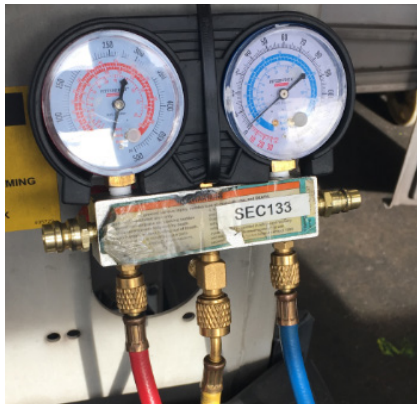

FIGURE 4: GAUGE CONNECTION (LOW PRESS. SIDE)
- Connect the AC gauges low-pressure side (blue hose and gauge) to the compressor low pressure service port (figure 4) (remove blue protective cap).